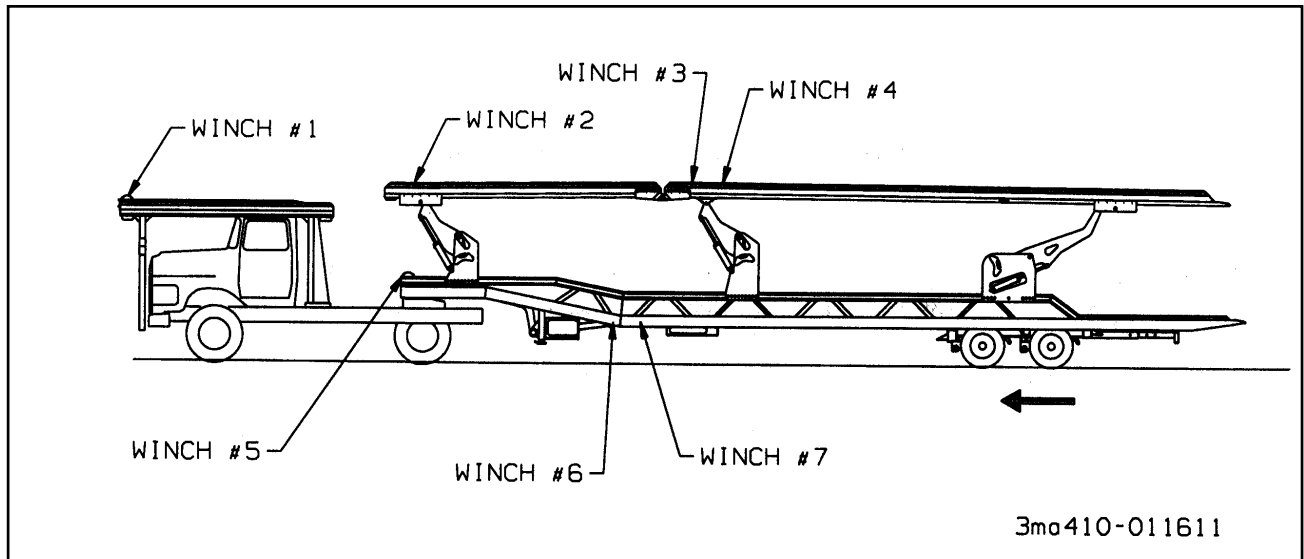
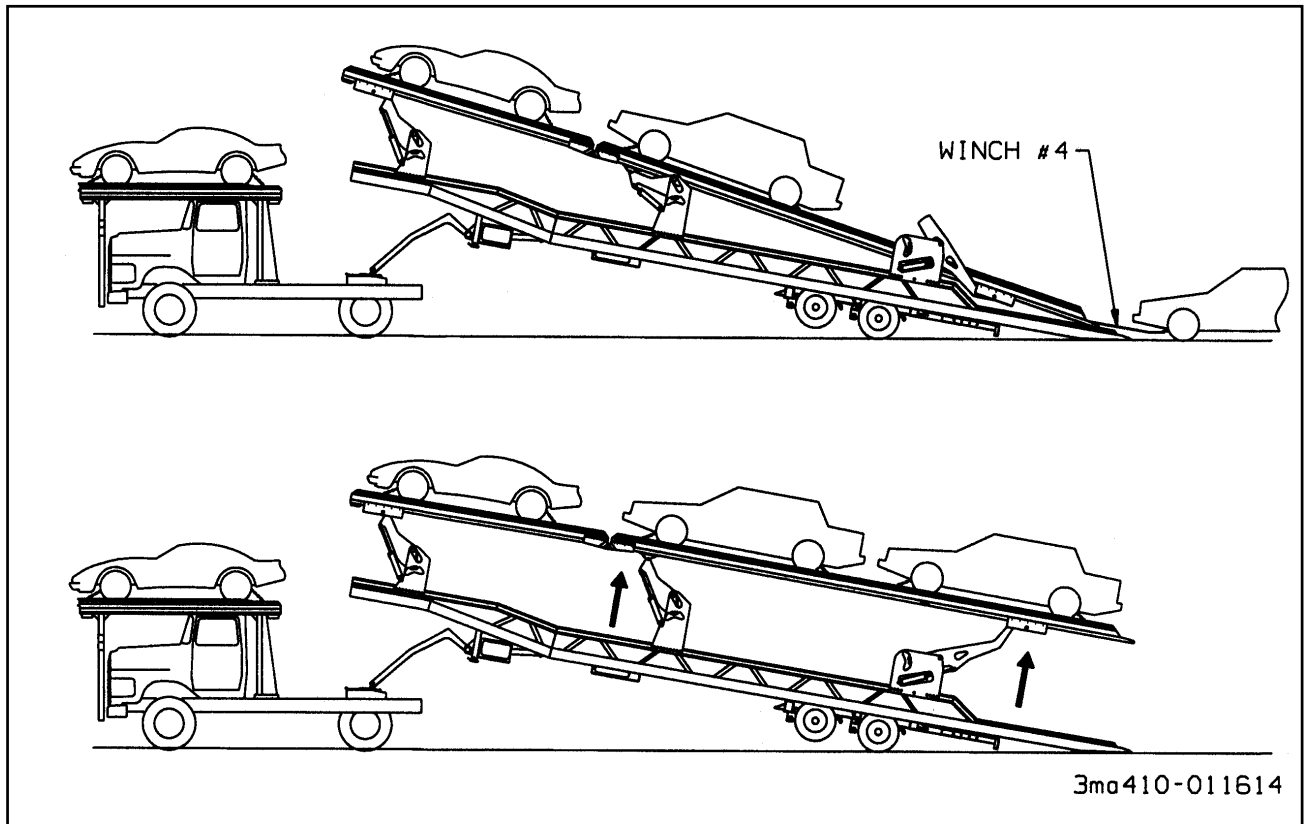

Figure 3-6 Preparation for Loading
Figure 3-10 Loading the Upper Deck
- 3-14.8 Prepare the first vehicle to be winched onto the trailer. Connect winch #2 (**See Figure 3-6**) to the first vehicle and pull it to the front of the upper deck. Secure the vehicle so it will not roll forward or backward.
- 3-15.6 Connect winch #2 (See Figure 3-6) to the vehicle and pull it to the front of the upper deck. Make sure there is adequate clearance between the over-cab vehicle and the vehicle on the trailer to allow for swing clearance. 2-1/2 feet clearance is usually required. Secure vehicle with chains (See Section 3-17).
- 3-15.7** Free-wheel the winch cable from winch #4 (See Figure 3-6) out until it is at the rear of the upper deck so it is accessible after loading the next vehicle.
- 3-15.8** Connect winch #3 (See Figure 3-6) to the next vehicle and pull it to the center position on the upper deck. Secure with chains (See Section 3-17).
- 3-15.9** Connect winch #4 (See Figure 3-6) to the next vehicle and pull it to the rear position on the upper deck (See Figure 3-10). Secure with chains (See Section 3-17).
- 3-16.3 Connect winch #5 (See Figure 3-6) to the next vehicle and pull it to the front of the lower deck as far as possible without interfering with the upper deck. Secure with chains (See Section 3-17).
- 3-16.4 Free-wheel the winch cable from winch #7 (See Figure 3-6) out until it is at the rear of the lower deck so it is accessible after loading the next vehicle.
- 3-16.5 Connect winch #6 (See Figure 3-6) to the next vehicle and pull it to the center position on the lower deck. Secure with chains (See Section 3-17).
- 3-16.6 Connect winch #7 (See Figure 3-6) to the next vehicle and pull it to the rear position on the lower deck. Secure with chains (See Section 3-17).
- 3-20.8** Reel out winch #1 (**See Figure 3-6**) to allow the vehicle to move off of the Over-the-cab deck and onto the trailer upper deck.